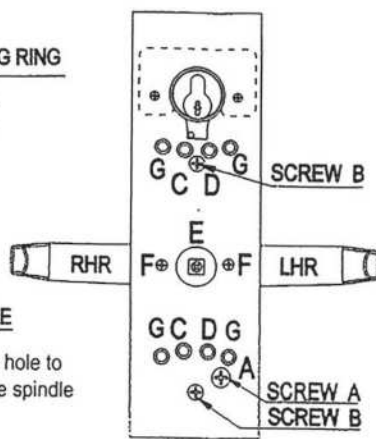

Fig2
2. INSERT SCREW A INTO HOLE "A" (SEE FIGURE 2) AND TIGHTEN TO SECURE LEVER POSITION.
3. INSERT SPINDLE INTO BACK OF LEVER IN HOLE "E". (SEE FIGURE 2).
4. FOR HEAVY DUTY SERIES SCREWTHRU BOLTS INTO (4) G HOLES & FOR STANDARD SERIES SCREW THRU BOLTS INTO EITHER C&C FOR LHR OR D&D FOR RHR AND TIGHTEN.
NOTE: DO NOT REMOVE "B" SCREWS (SEE FIGURE 2) OR WARRANTY WILL BE VOID.